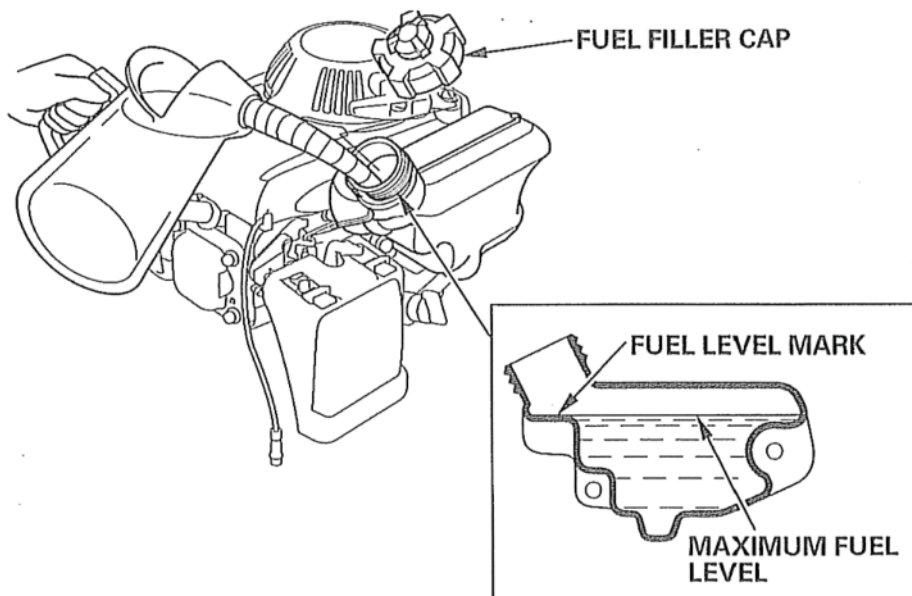

Figure 6
2. Clean around the fuel tank (Fig 6)